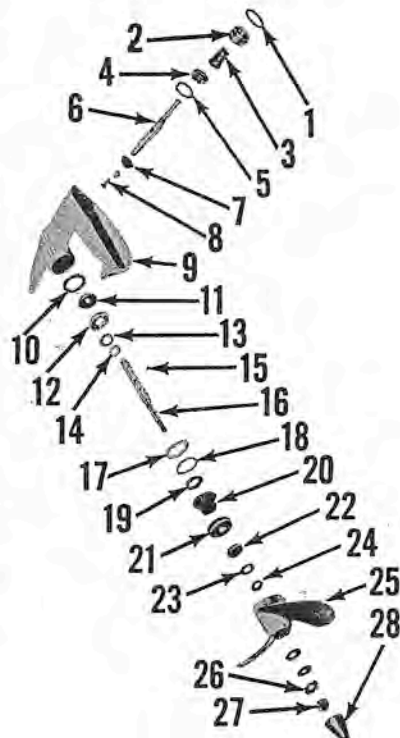

Fig. M20—Exploded view of lower unit gearcase and associated parts.
If clutch tension must be increased, straighten the tabs on the propeller nut locking washer (26—Fig. M20) and tighten the propeller nut until the proper torque is applied. If propeller nut bottoms on shaft, remove the nut and place a shim behind the compression spring (27). Shims are available in thicknesses of 0.015 and 0.031. An inoperative clutch can be cleaned or the parts renewed by removing the propeller after tension nut is off. Clutch contains 8 externally splined friction discs (23) and 8 internally splined discs (24) which must be alternated on shaft. Motors are equipped with a 6 3/4 inch diameter, 7 inch pitch, 2 blade aluminum propeller.
(21—Fig. M20) using Mercury tool 91-24267 or a suitable spanner wrench. **NOTE:** Gearcase cover is secured with left-hand thread.